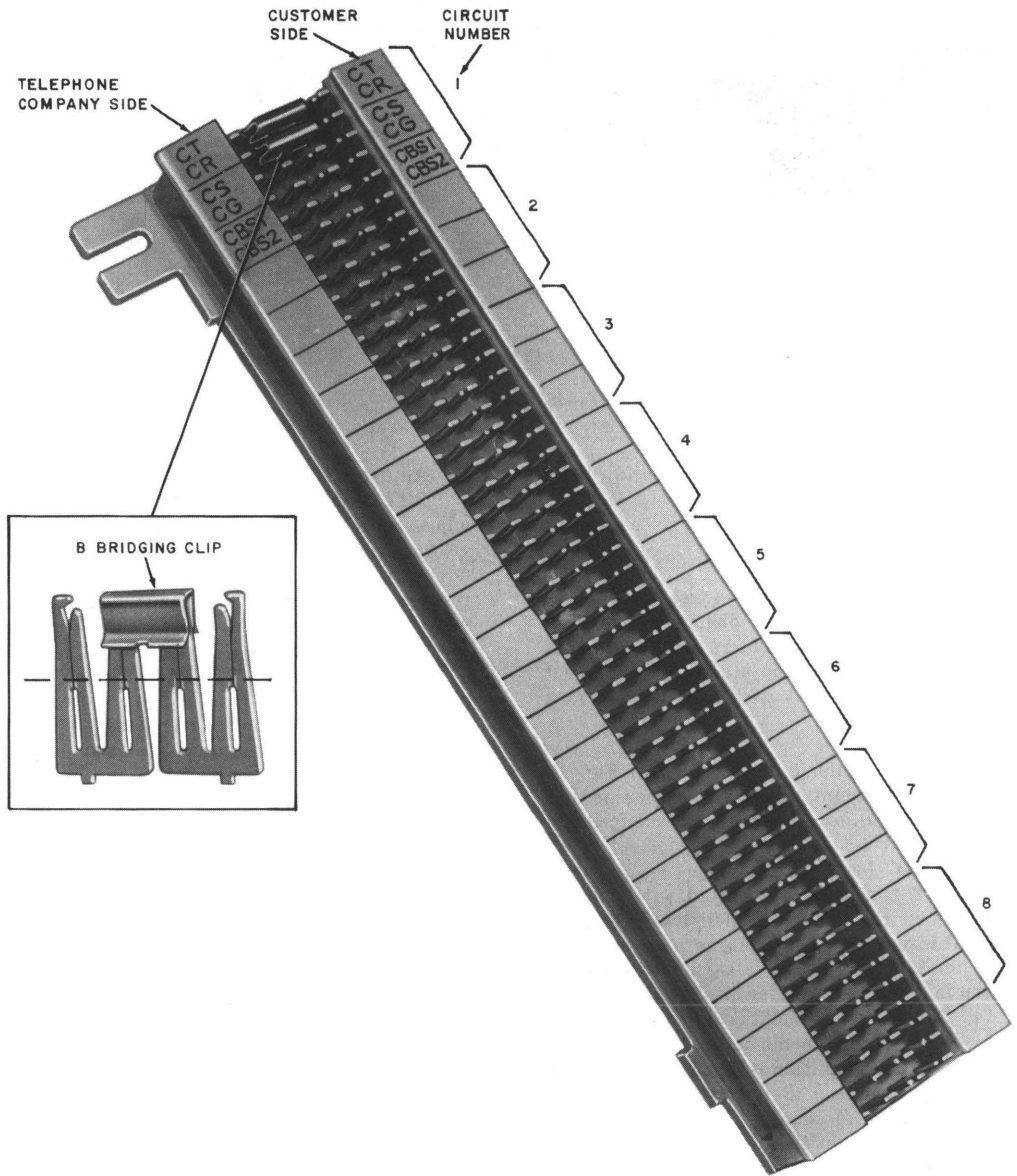

Fig. 8—Typical Interface Connecting Block—PCA CDQ2W
- Block, Connecting, 66M1-50 (Fig. 8 and 9).
3.02 Wire the equipment as shown in Fig. 13 and 14. Mount the interface connecting block (Fig. 8 or 9) in a position that will facilitate testing between it and the PCA equipment. Use the 12-pair "D" inside wiring cable or equivalent to terminate the leads associated with the CP equipment on the block. Stencil trunk number and lead designations on designation strip (see Fig. 10 and 11). Make DX signaling unit adjustments as given in 3.03. Apply power as shown in Fig. 13 and 14. When 4-wire facilities are used, install the proper plug-in components in the 24V4C repeater. (When the AGC amplifier is used, see 7.02 for adjustment procedures.) Before installing bridging clips on the block to connect Bell System wiring to CP wiring, perform the appropriate quick test in 3.08 to determine if the PCA operates properly. If it does not, recheck installation and connections; if necessary, perform the maintenance procedures in Part 5 of this practice.